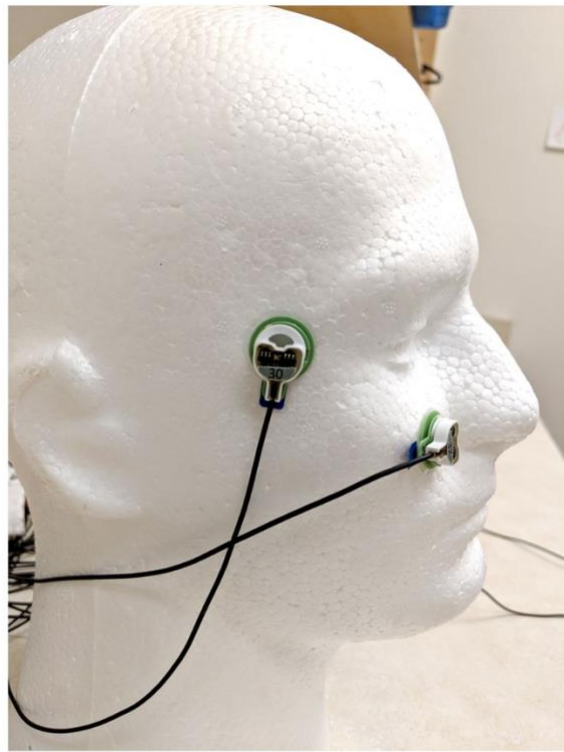

Figure 6. Properly placed Lower VEOG, Right HEOG, and Left HEOG external electrodes, as viewed from the front (panel A) and the side (panel B).
14. When ready to place an external electrode, remove the top of the collar and place the electrode on the prepared area. Repeat for all external electrodes. See Figure 6 for the proper placement of each external electrode described below.